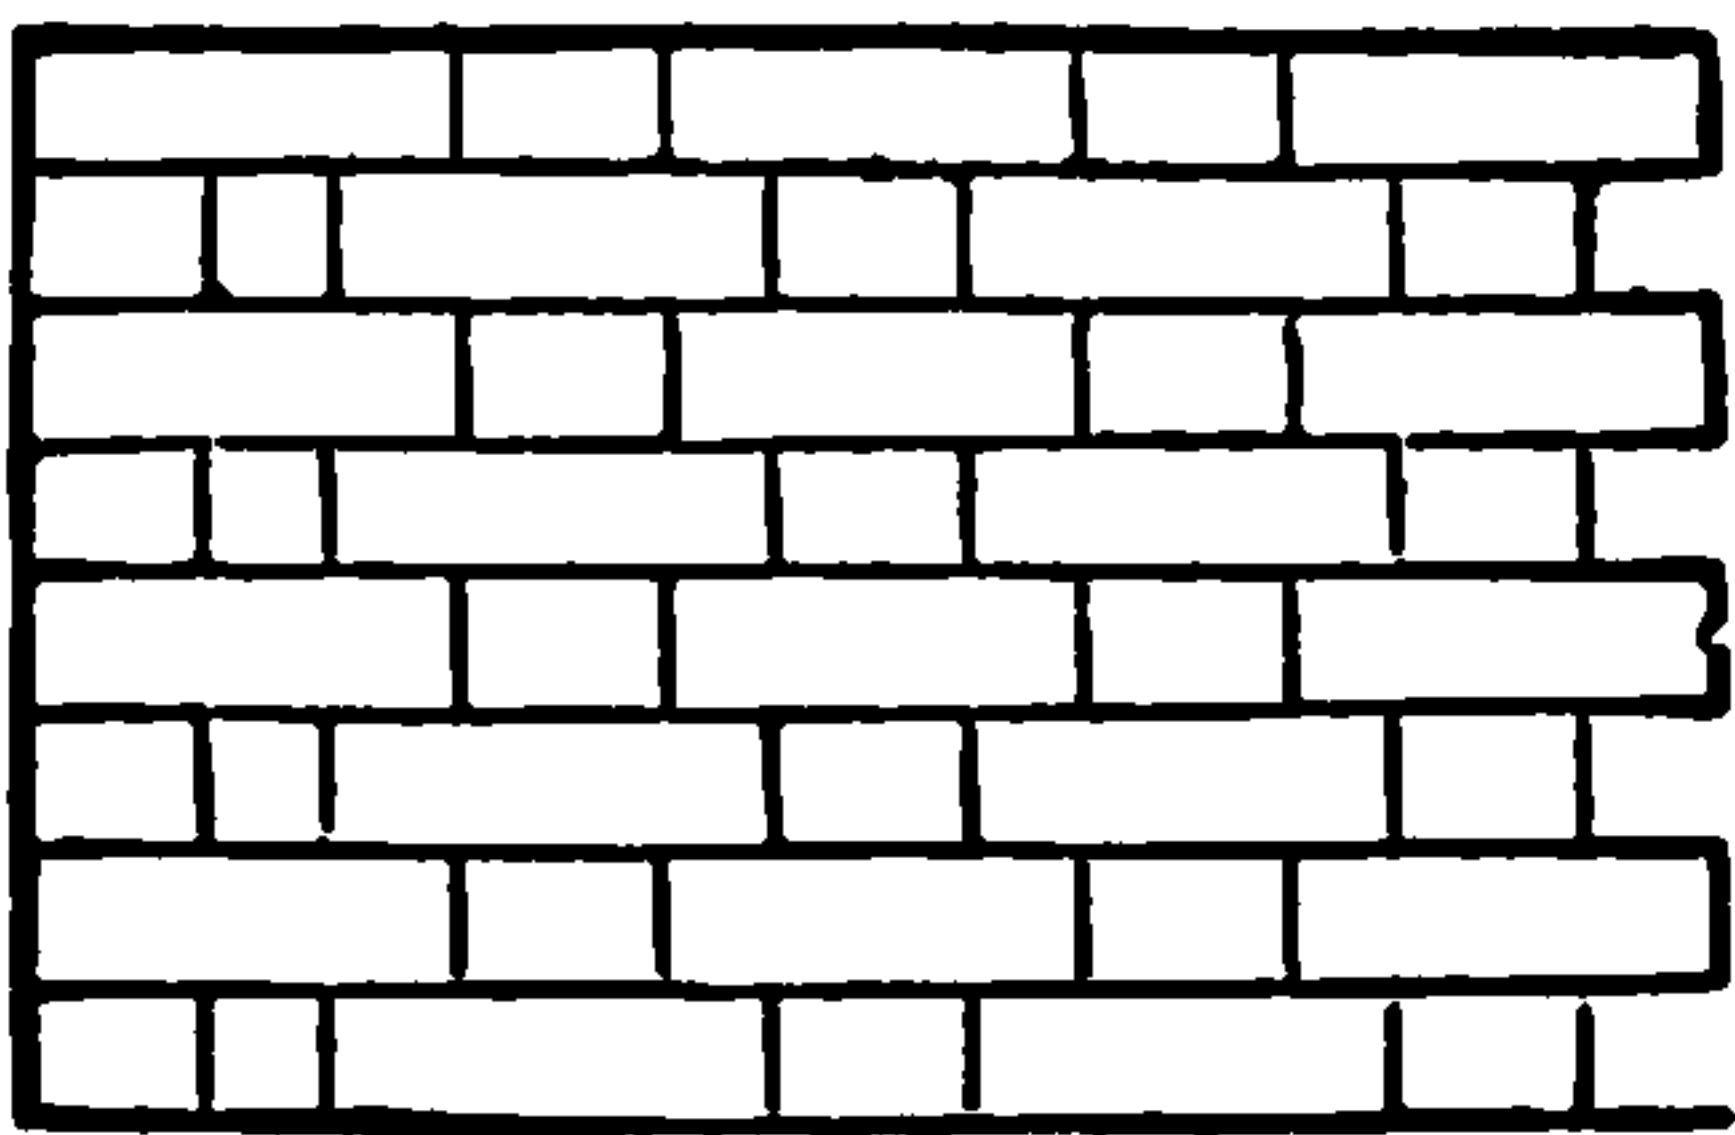

Fig. 7.
*Flemish Bond* (Fig. 7) is very much used for house building, owing to its neater appearance. But very often the inside of the house is Old English; and when the walls are built in this manner, the heading bricks of the Flemish work are halved ("bats," as they are more generally called) every second course; and by so